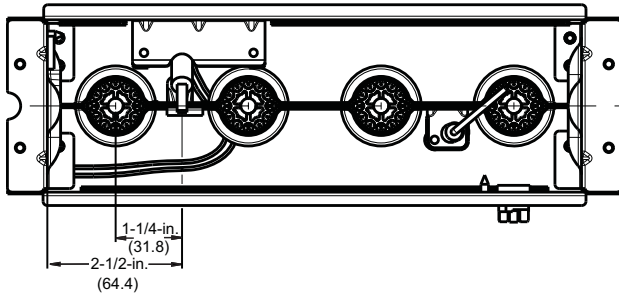

Fig. 6 – Igniter Position – Back View
4. Verify igniter to burner alignment. See Fig. 6 and 7.